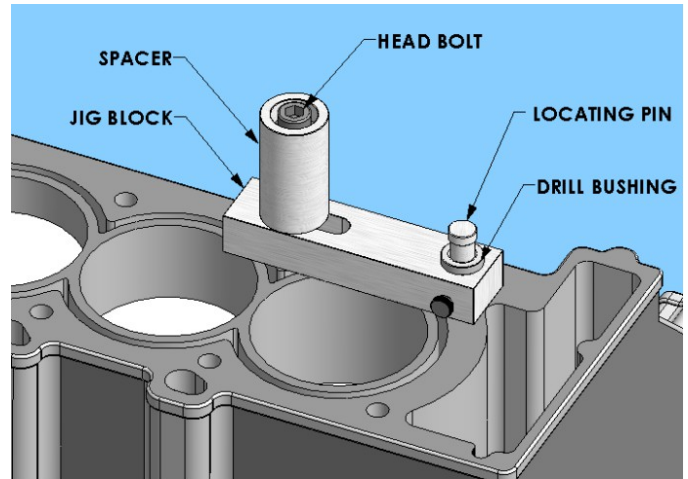

FIGURE 1A
2. **Figure 1A** – Install the Drill Bushing into the Jig Block and snug it in place with the thumb screw located on the side of the Jig. Make sure the deck surface is clean. Mount the Drill & Tap Jig with a good head bolt hole near the hole being repaired, using the tall Spacer (see note below) and one of the original head bolts, but do not tighten. Center the Drill Bushing over the hole being repaired by install the Locating Pin through the Drill Bushing and into the top of the hole being repaired. Hold Locating Pin down firmly so that the tapered end of the pin centers itself into the top of the hole, then tighten the Jig in place being careful not to over tighten. Remove the Locating Pin.